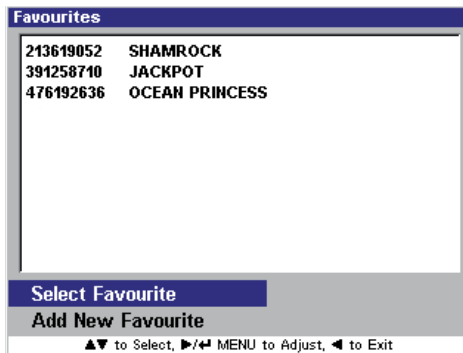

Fig. 5.6 - Favourites list (non selectable)
**Method one** - From the main menu and select “Favourites List” then press ←MENU or ►. A window will open showing the current list of favourites, Fig. 5.6.